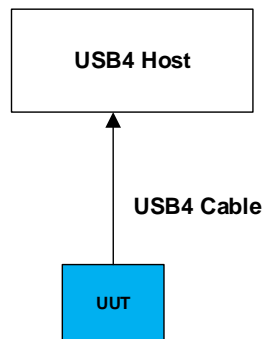

Figure 2-1: USB4 Host ↔ UUT (USB4 Device Under Test) Topology
Connect the UUT (USB4 Device) to the USB4 host using a USB4 Cable as shown in Figure 2-1.
1. Connect the UUT to USB4 host using a USB4 Cable as shown in Figure 2-1.